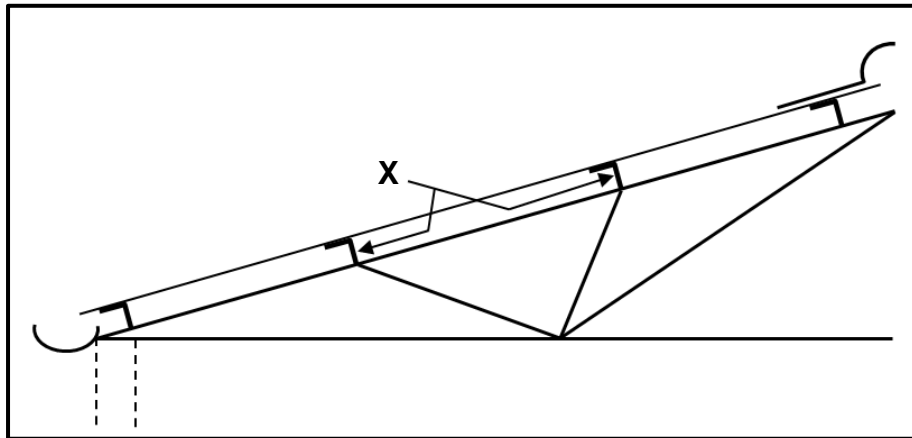

FIGURE 4.1
- 4.1 FIGURE 4.1 below shows a section of a roof truss. Identify part **X**.